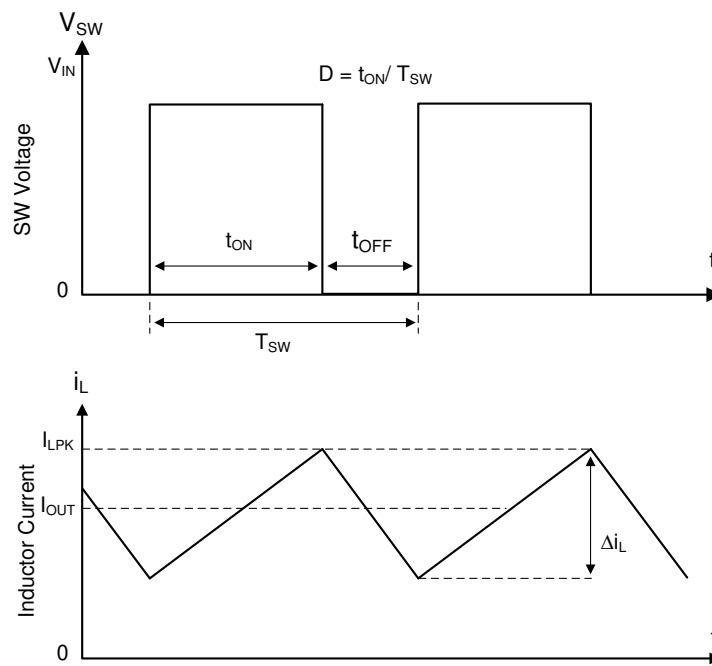

Figure 7-1. SW Node and Inductor Current Waveforms in Continuous Conduction Mode (CCM)
The following operating description of the LMR516x5 refers to Section 7.2 and to the waveforms in Figure 7-1. The LMR516x5 is a step-down, synchronous, buck converter with integrated high-side (HS) and low-side (LS) switches (synchronous rectifier). The LMR516x5 supplies a regulated output voltage by turning on the high-side and low-side NMOS switches with controlled duty cycle. During high-side switch ON time, the SW pin voltage swings up to approximately V_{IN} , and the inductor current, i_L , increases with a linear slope of $(V_{IN} - V_{OUT}) / L$. When the high-side switch is turned off by the control logic, the low-side switch is turned on after an anti-shoot-through dead time. Inductor current discharges through the low-side switch with a slope of $-V_{OUT} / L$. The control parameter of a buck converter is defined as Duty Cycle $D = t_{ON} / T_{SW}$, where t_{ON} is the high-side switch ON time and T_{SW} is the switching period. The converter control loop maintains a constant output voltage by adjusting the duty cycle D . In an ideal buck converter, where losses are ignored, D is proportional to the output voltage and inversely proportional to the input voltage: $D = V_{OUT} / V_{IN}$.